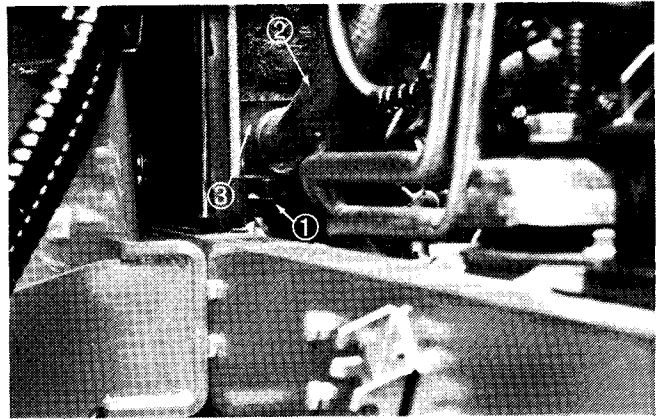

Figure 29
5. Drain coolant by opening drain valve or loosening hose clamp and disconnecting lower coolant hose from radiator (Fig. 29). Loosen hose clamps and remove lower radiator hose from engine and radiator. Remove drain plug from left rear of engine block to drain coolant.